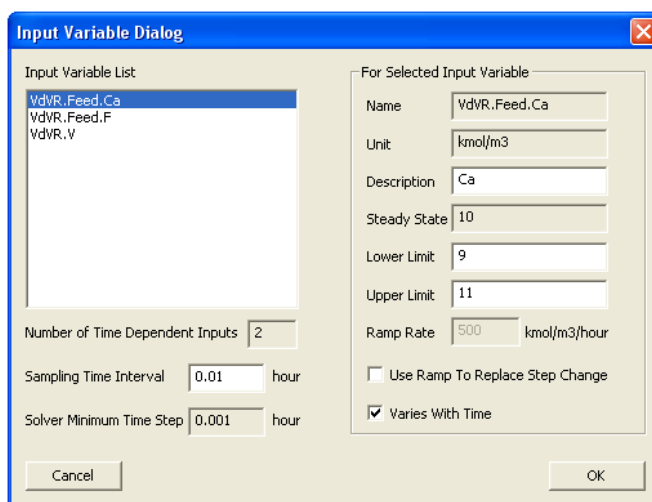

Figure 8: Input Variable Dialog Window
9. Configure the input variables. Navigate to the **Setup → Configure Input Variables...** command or click  on the toolbar. The “Input Variable Dialog” window displays as shown in Figure 8.